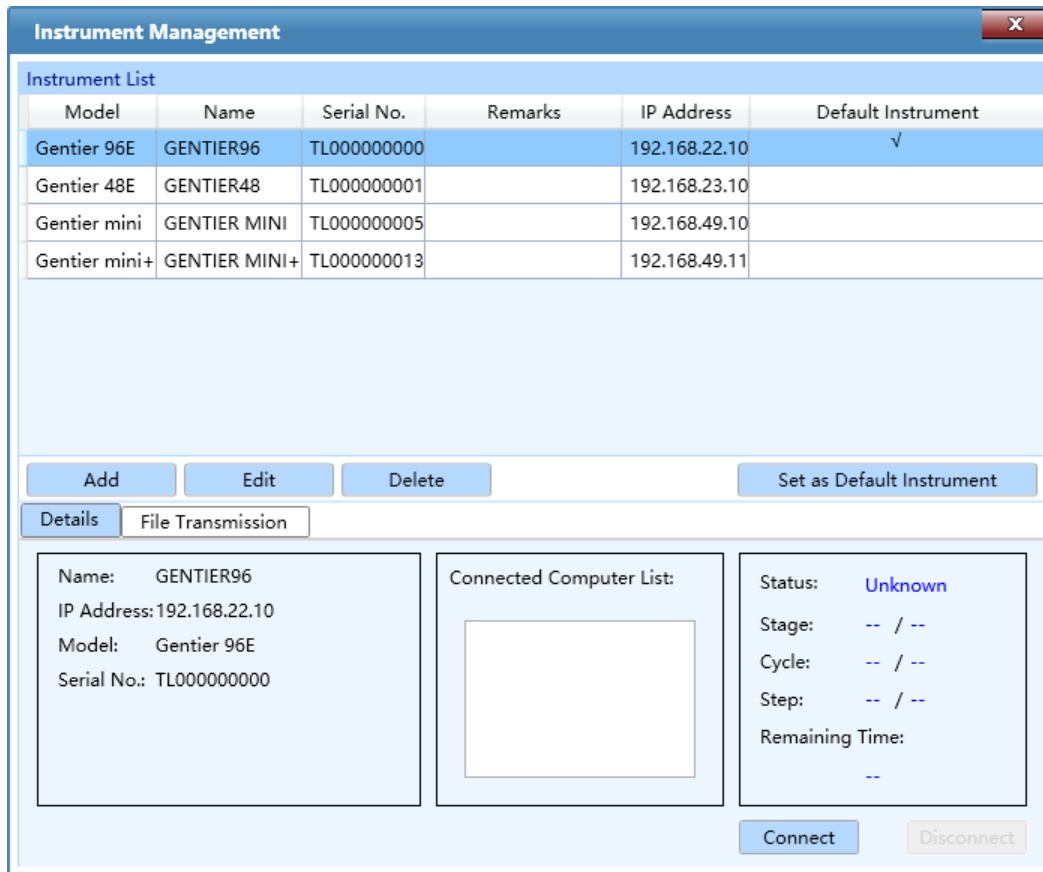

Figure D-3.2. Tool Submenu - Instrument Management Interface
1. **Instrument Management:** Click **Instrument Management** option in **Tool** submenu and the application software will automatically pop up the instrument management interface, which consists of three parts: **Instrument List**, **Details** tab and **File Transmission** tab, as shown in figure D-3.2. User can manage all instruments within the LAN on this interface.